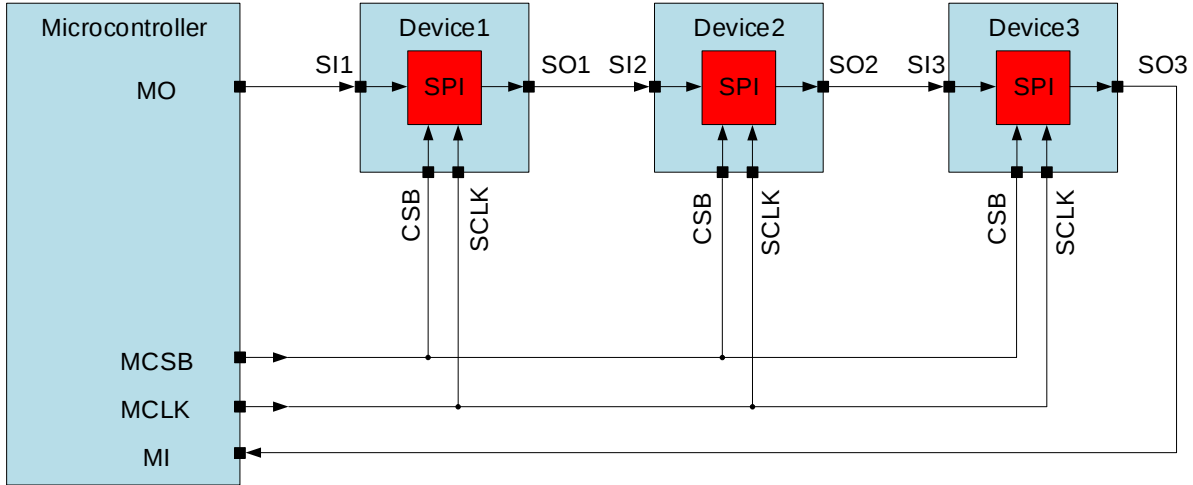
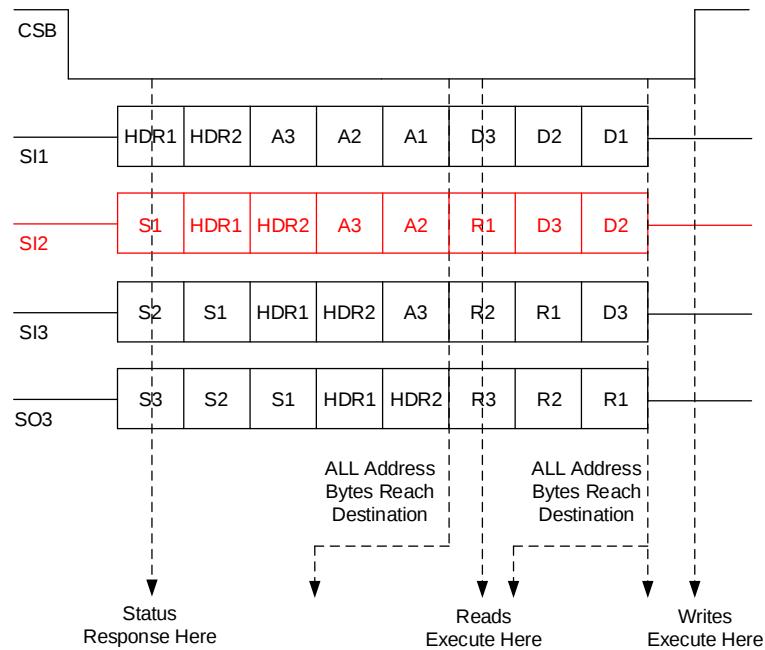

Figure 19. SPI Daisy Chain
Figure 20. Daisy Chain SPI Operation
The device supports daisy chain operation with devices with the same SPI protocol shown in Figure 20. The master output (MO) is connected to a slave SI and the first slave SO is connected to the next slave SI to form a chain. The SO of the final slave in the chain will be connected to the master input (MI) to close the loop of the SPI communication frame. In daisy chain configuration, a single chip selects, CSB, and clock signal, SCLK, connected in parallel to each slave device, are used by the microcontroller to control or access the SPI devices. Figure 19 shows the topology when 3 devices are connected in series with waveforms.
The first device in the chain shown above receives data from the master controller in the following format. See SI1 in Figure 20.
After the data has been transmitted through the chain, the master controller receives it in the following format. See SO3 in Figure 20.
The device can count the number of Status bytes behind the Header byte to recognize its position. As shown in Figure 20, the device 2 has One Status bytes (S_1) behind the Header byte and the device 3 has Two Status bytes (S_1, S_2) behind the Header byte. When the device knows about its position and the number of devices connected in the chain, the device could load the relevant address and data byte in its buffer and bypasses the other bits. In this way, even the chain has 63 devices, the device still works fleetly.